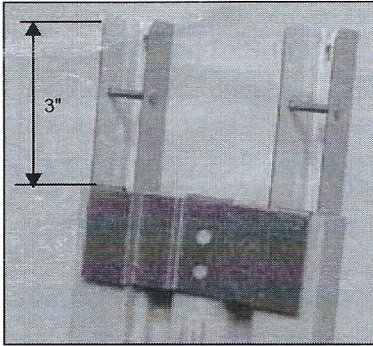

Figure 11
4. Install the hanger clip on the top edge of the jamb carrier between the balance tube and rivet pins. See figure 11.